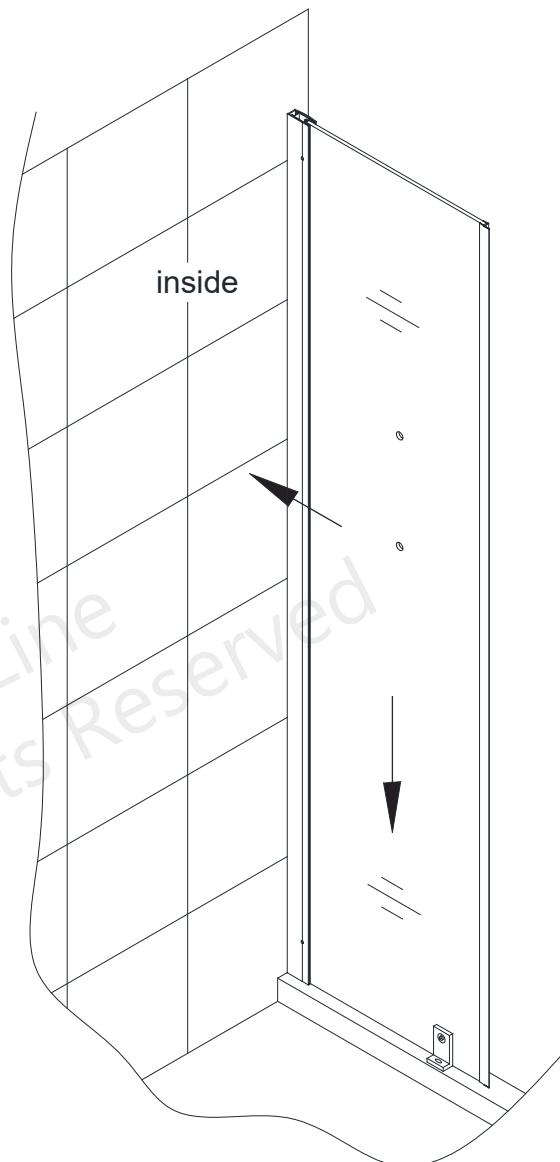

Fig 4
4. Carefully position the **assembled panel** onto the threshold and against the wall. Push the **Wall Profile (#09)** tight to the wall while holding the panel tight to the threshold. (**Fig 4**)